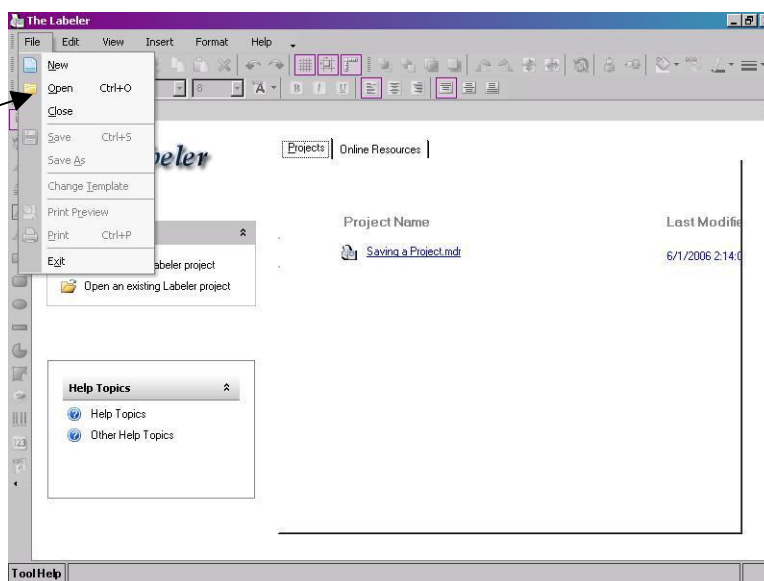
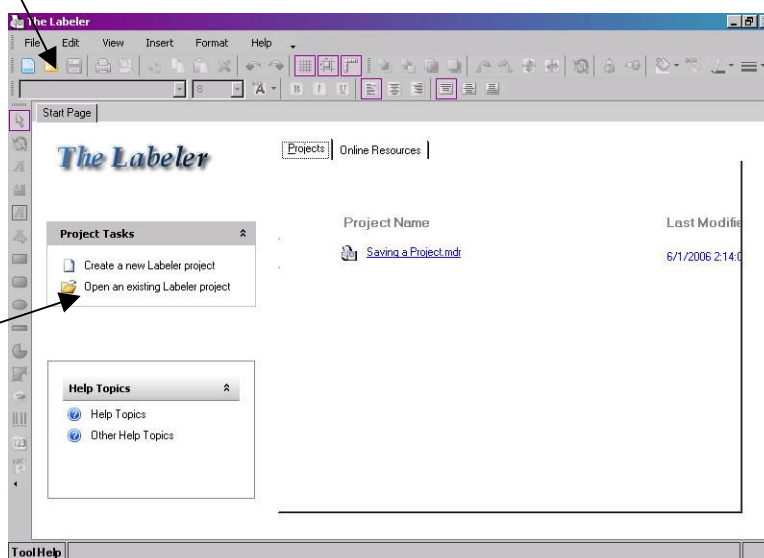

Figure 5.2.3: Opening through file menu
Figure 5.2.4: Opening from the open icon
- 1.1 Click on the open  icon which can be found on the standard tool bar or you can find it in the file menu (see Figure 5.2.3 and Figure 5.2.4).